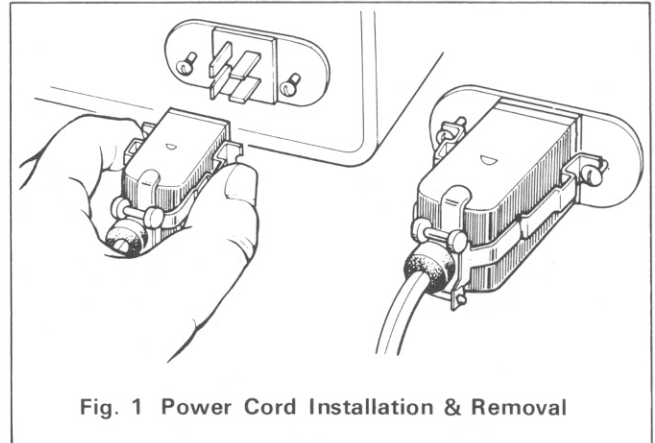

Fig. 1 Power Cord Installation & Removal
2. When replacing the power cord, disconnect it from the AC supply (or battery). When connecting the AC power cord. Use care to prevent electrical shock. Each power cord is equipped with a 4P plug complete with locking tabs. When installing the plug, squeeze the tabs to ensure their mating with the transceiver. To remove again squeeze the locking tabs to disengage the plug from the transceiver, and withdraw. (See Fig. 1)